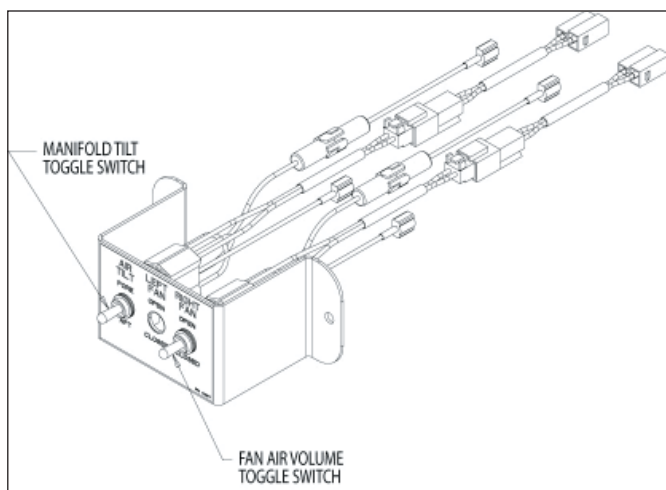

Figure 44, Manifold tilt/air volume toggle switch
1. Moving the toggle switch to the FORE position (Figures 44 & 45) extends the shaft of the electric actuator forward. This rotates the manifold CW which directs the air tubes towards the front of the header. See Section 5.6.1 for the center stroke position which points the air tubes directly behind the cutterbar.
2. Moving the toggle switch to the AFT position (Figures 44 & 45) retracts the shaft of the electric actuator backward. This rotates the manifold CCW, which directs the air tubes towards the back of the header.
1. Move the toggle to the OPEN position (Figures 44 & 46) to open the butterfly plate which increases air volume to the air tubes.
2. Move the toggle to the CLOSED position (Figures 44 & 46) to close the butterfly plate which decreases air volume to the air tubes.